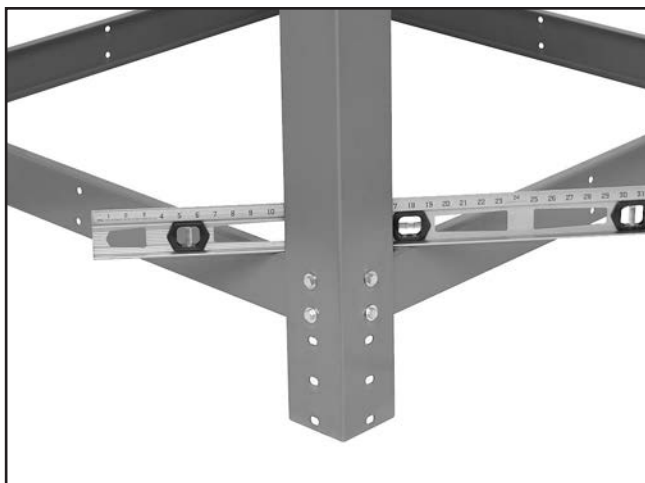

Figure 19. Level positioned on the upper stand.
4. Place the level across a corner of the lower stand braces and move the upper stand around until that corner is level, then fully tighten all of the fasteners for that corner (see **Figure 19**).